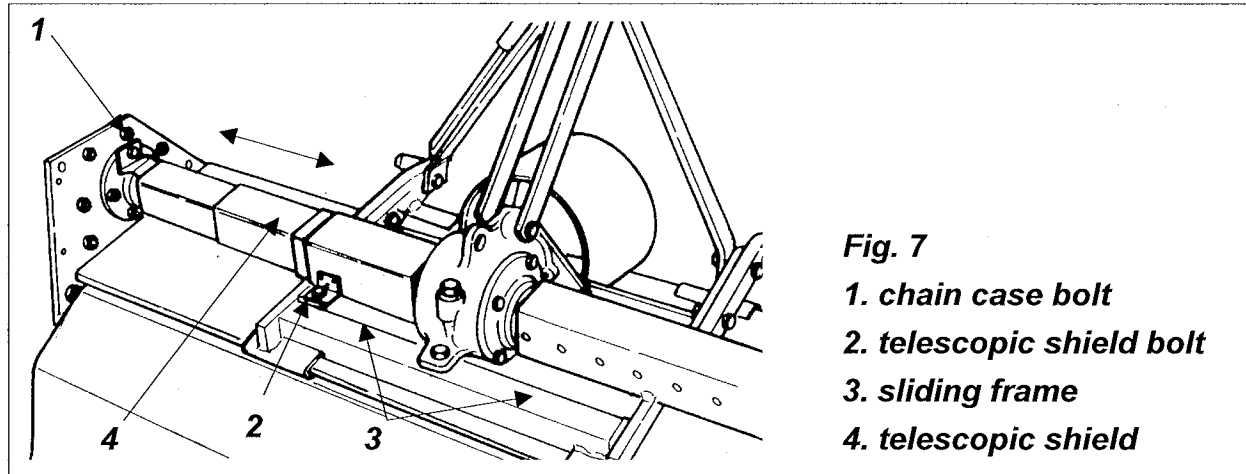

Fig. 7
10. The hexagonal drive shaft is protected by a telescopic sliding shield (see #4, fig. 6 & 7). To attach this shield do the following: bolt the upright tab to the chain case side plate (see #1, fig. 6); open the telescopic shield and bolt the outer cover (see #2, fig. 7) to the retaining plate on the sliding frame (see #3, fig. 7); ensure that the telescopic shielding (see #4, fig. 7) when open does not touch the hexagonal shaft and is as parallel as possible; slide the frame (see #3, fig. 7) back two or three times from completely open to completely closed to be sure it opens and closes without difficulty. **Note: lightly greasing the hexagonal drive shaft helps the side shifting of the tiller.**